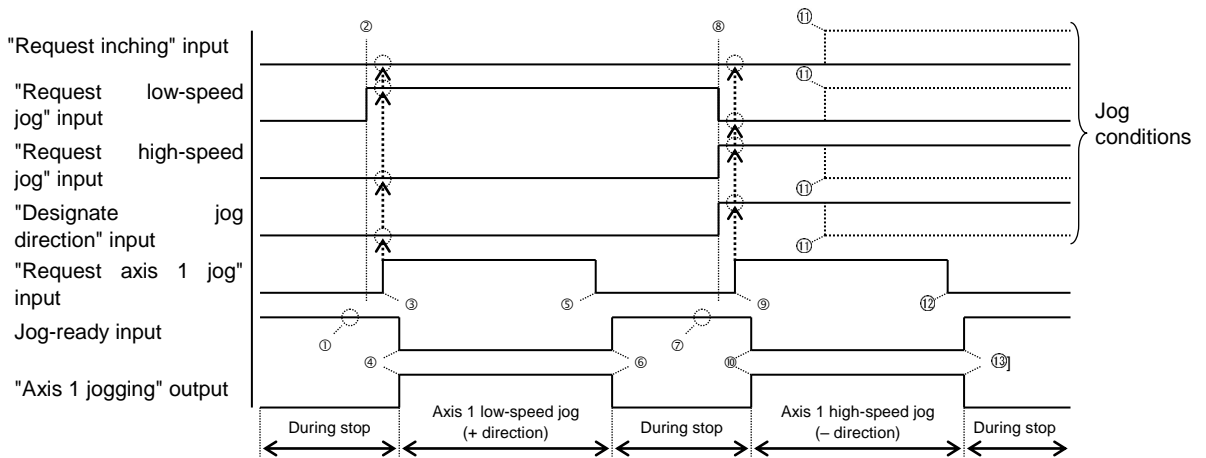

Fig. 12.2.4-1 Example of First axis moving
- When the jog conditions (inching request, low-speed jog request, high-speed jog request) and jog direction are specified, and the jog request is ON, the corresponding axis performs the jog operation. (Refer to Fig. 12.2.4-1.)